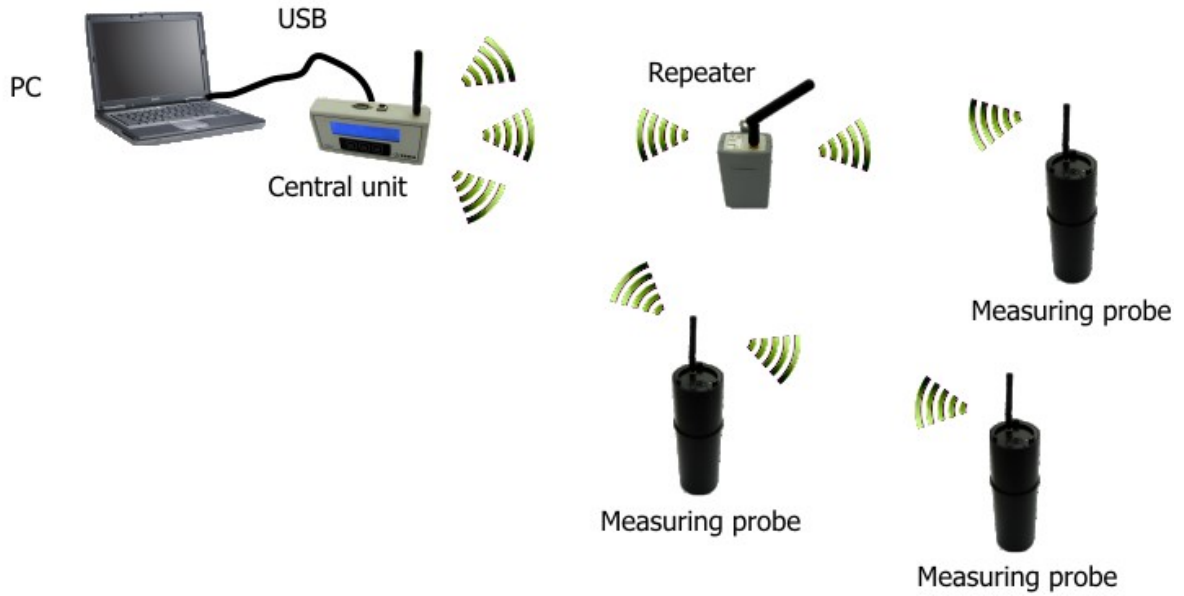

Figure 1 - TSR2 Wireless Radon Probe in TERA System for Radon Concentration Measurement
- A) TERA System for Radon Concentration Measurement (Figure 1)